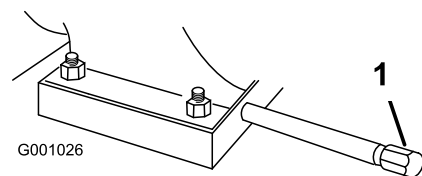

Figure 31
- Clean the area around the oil-drain cap (Figure 31).